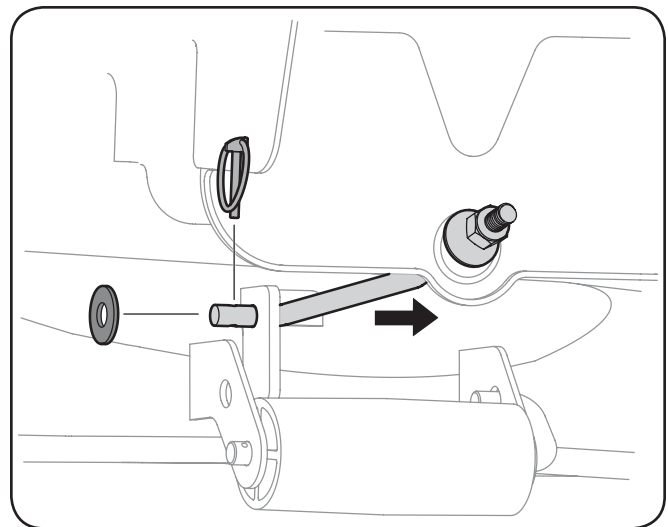

Figure 7-6
- Remove the cotter pin from the end of the stabilizer rod and slide the stabilizer out of the hanger bracket on the deck. See Fig. 7-6.